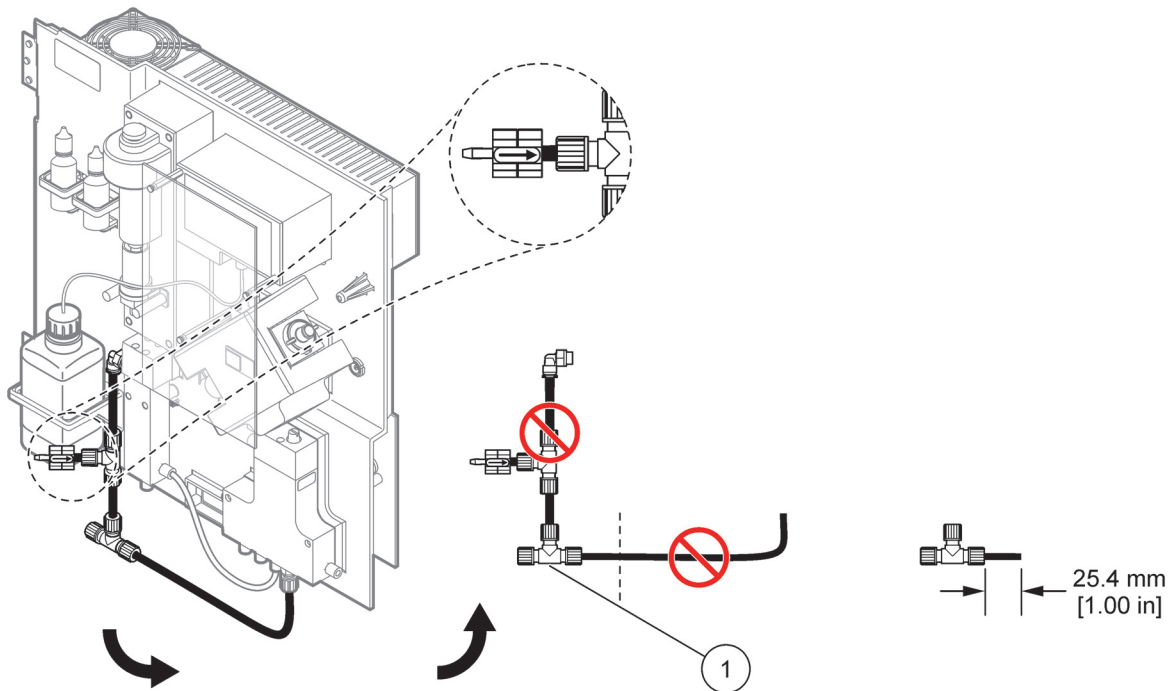
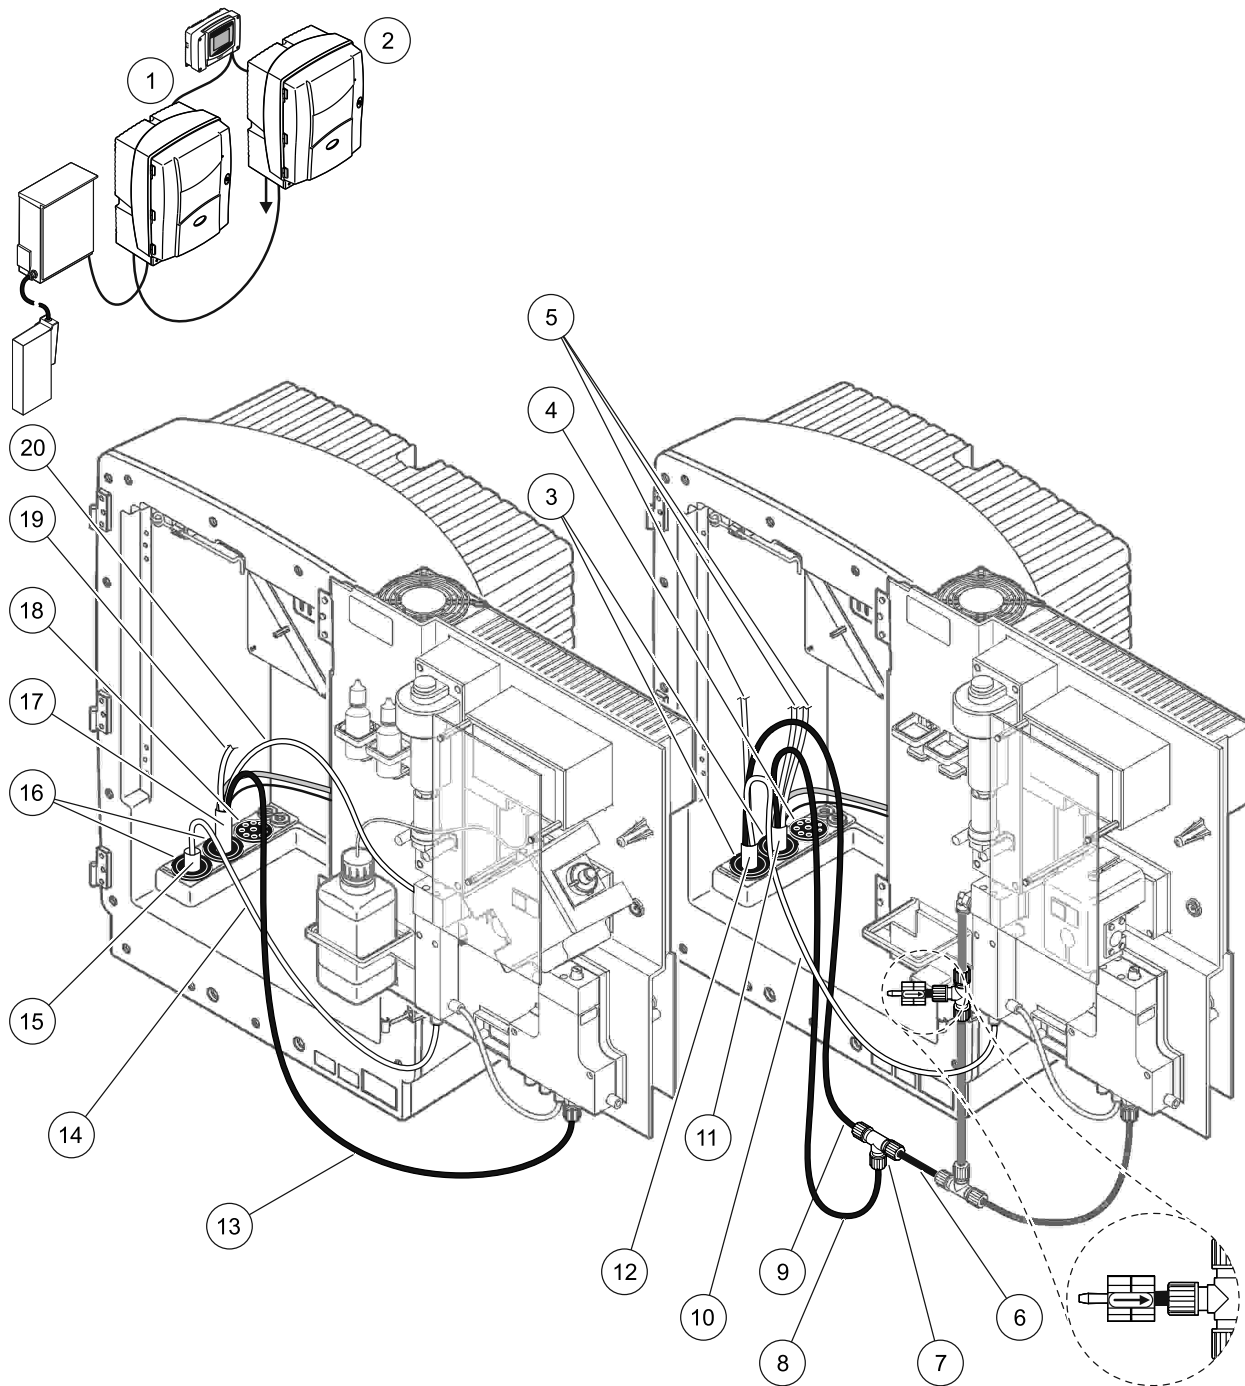

Figure 28 Removing the T-fitting
Figure 32 Option 4 setup
The T-fitting is used to connect the drain tube. To remove the T-fitting refer to Figure 28 and the following steps:
Refer to Figure 32 and the following instructions for Option 4:
- a. Feed the heated hose from the FILTRAX through the analyzer opening (Figure 32, item 15). Use Seal Plug #1 to secure.
- b. Feed the heated drain hose through the analyzer opening (item 17). Use Seal Plug #1 to secure.
- e. Remove the pre-installed drain tube attached to the valve block and remove the T-fitting from the drain tube (item 7). Retain for reuse with Analyzer 2.
- a. Feed the heated drain hose from Analyzer 1 through Analyzer 2 (item 12). Use Seal Plug #1 to secure.
- b. Feed the second heated drain hose through Analyzer 2 (item 11). Use Seal Plug #1 to secure.
- e. Cut 25 mm from the drain tube that was removed from Analyzer 1. Connect the 25 mm piece of tubing to the T-fitting on Analyzer 2. Connect the other end of the tubing to the T-fitting that was removed from Analyzer 1. Refer to Figure 28, page 77 for T-fitting removal.